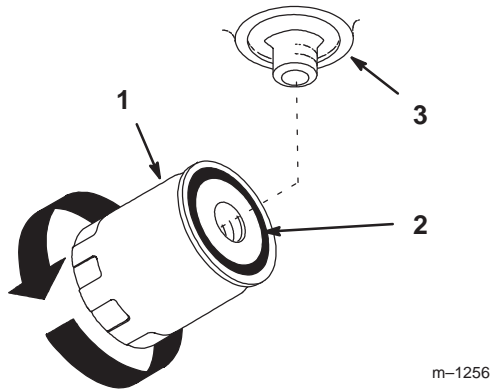

Figure 47
4. Apply a thin coat of hydro fluid to the rubber gasket on the replacement filter (Fig. 47).
7. When fluid overflows the filter, turn the oil filter clockwise until the rubber gasket contacts the filter adapter; then tighten the filter an additional 1/2 turn (Fig. 47).